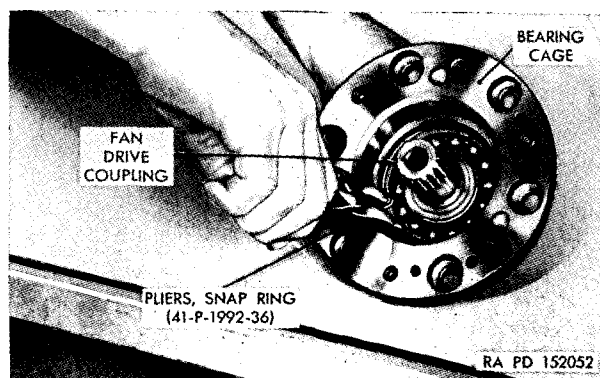

Figure 313. Removing or installing bearing-retaining snap ring.
- (1) Inspect the fan-drive cover and gasket. Inspect the fan-drive coupling assembly and gasket. Inspect the fan-drive gear. If the coupling assembly is defective, remove the bearing-retaining snap ring from the bearing cage, using snap ring pliers (41-P-1992-36) (fig. 313).
- (2) Remove the coupling from the cage and press the coupling out of the bearing. Replace all defective parts. To assemble, install the bearing on the coupling and seat the bearing using an arbor press. Press the coupling and bearing assembly into the bearing cage. Install the retaining snap ring (fig. 313).